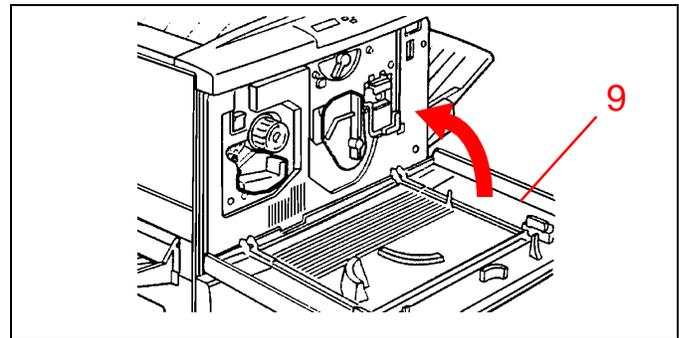

Figure 32
9. See Figure 32. Close the front cover of the copier/printer.